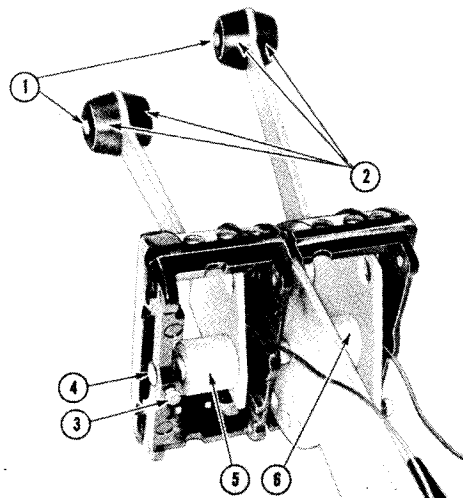

Figure 9-11
Install control levers (5, 6, Fig. 9-11) up through bottom of mounting brackets and drive pivot pin (4) through brackets. Rotate pivot pin